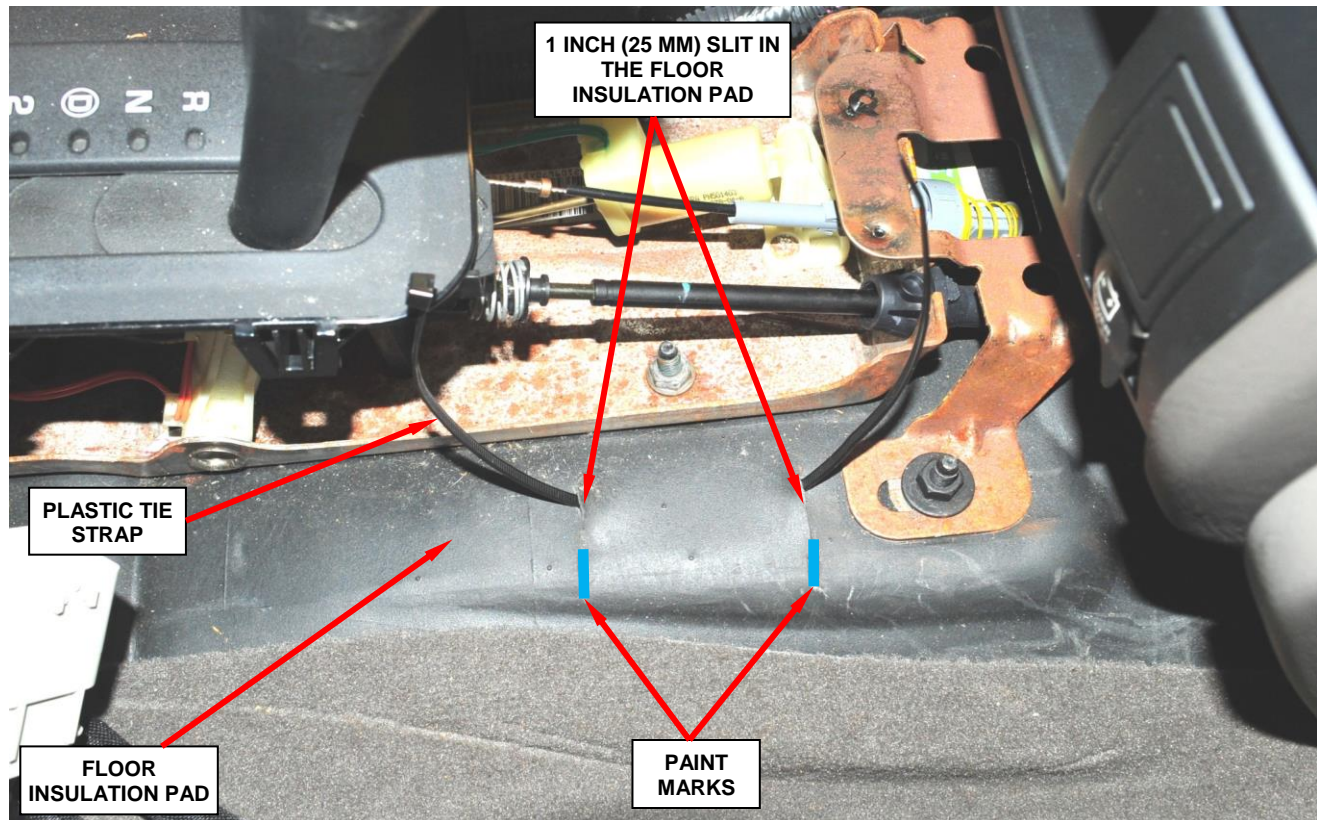

Figure 22 – Cut Slits in Floor Insulation Pad and Install Tie Strap
11. Cut a 1 inch (25 mm) slit in the floor insulation pad on both sides of the of the filter circuit box (Figure 22).
12. Install a tie strap through the slits in the floor insulation pad (Figure 22).